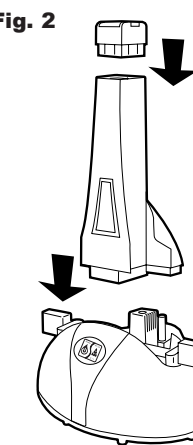

Fig. 3
5. Place the water tanks on the base (see Fig. 3).